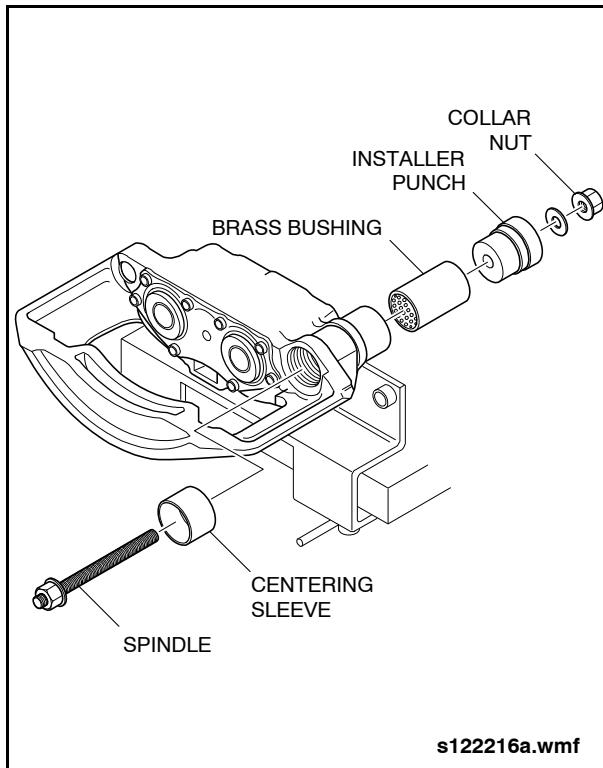

Fig. 2-130: Brass Bushing Installation
- a. Assemble and install the centering sleeve, brass bushing, installer punch, spindle, and collar nut (Items 76, 72, 70, & 71 from specials tool list). Ensure that the open side of the centering sleeve is facing away from the caliper. See "Fig. 2-130: Brass Bushing Installation" on page 114.